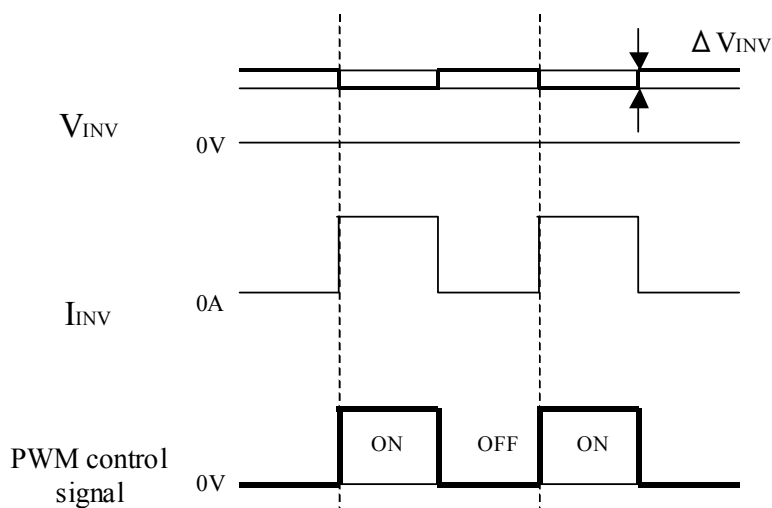

Fig.5 Brightness control voltage.
- Brightness control voltage is switched for "ON" and "OFF", as shown in Fig.5. Voltage difference generated by this switching,  $\Delta V_{INV}$ , may affect a sound output, etc. When the power supply is shared between the inverter and its surrounding circuit. So, separate the power supply of the inverter circuit with the one of its surrounding circuit.
- c) Carton size: (1230) (W) × (1090) (D) × (2134) (H)
- e) Packing Form is shown in Fig 5. (TBD)